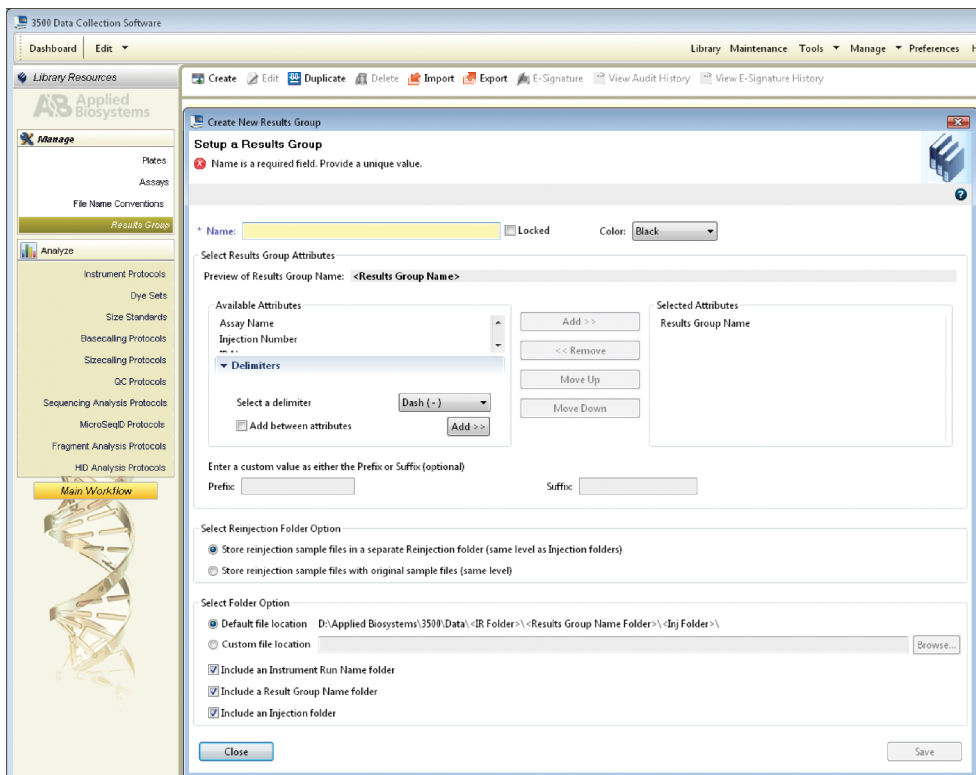

Figure 7. The 'Create New Results Group' window.
2.f. To create a new Results Group (Figure 7), navigate to the Library. Select **Results Group**, and then select **Create**. Alternatively, a previously created Results Group may be used.